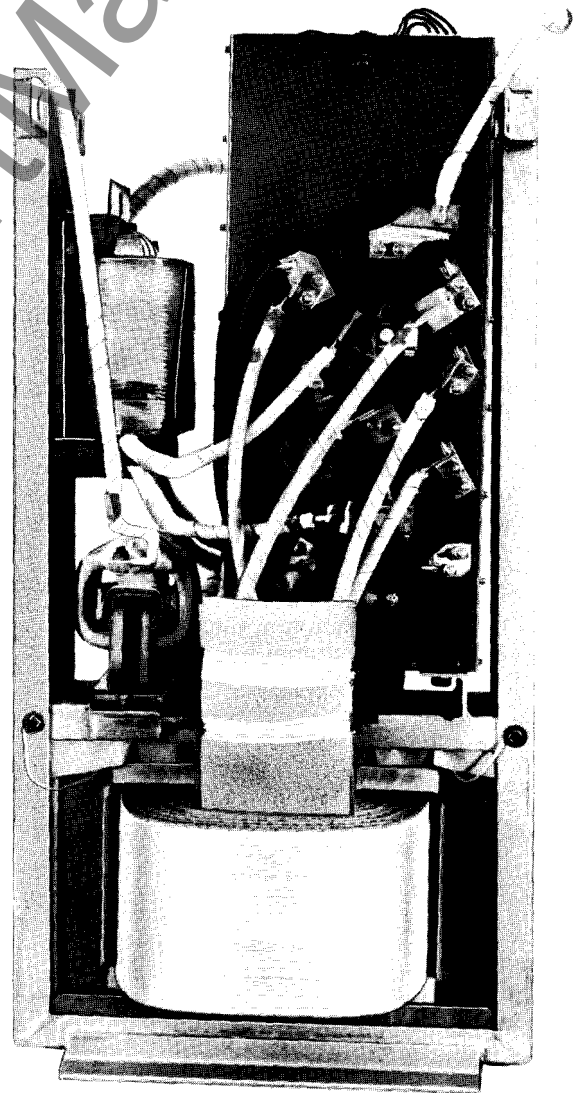

Fig. 17 - URL Internal Assembly removed from tank
7. The complete core and coil assembly including the tap changer can now be lifted out of the tank. After removal from the tank, the coils should be kept dry and clean. See Figure 17.